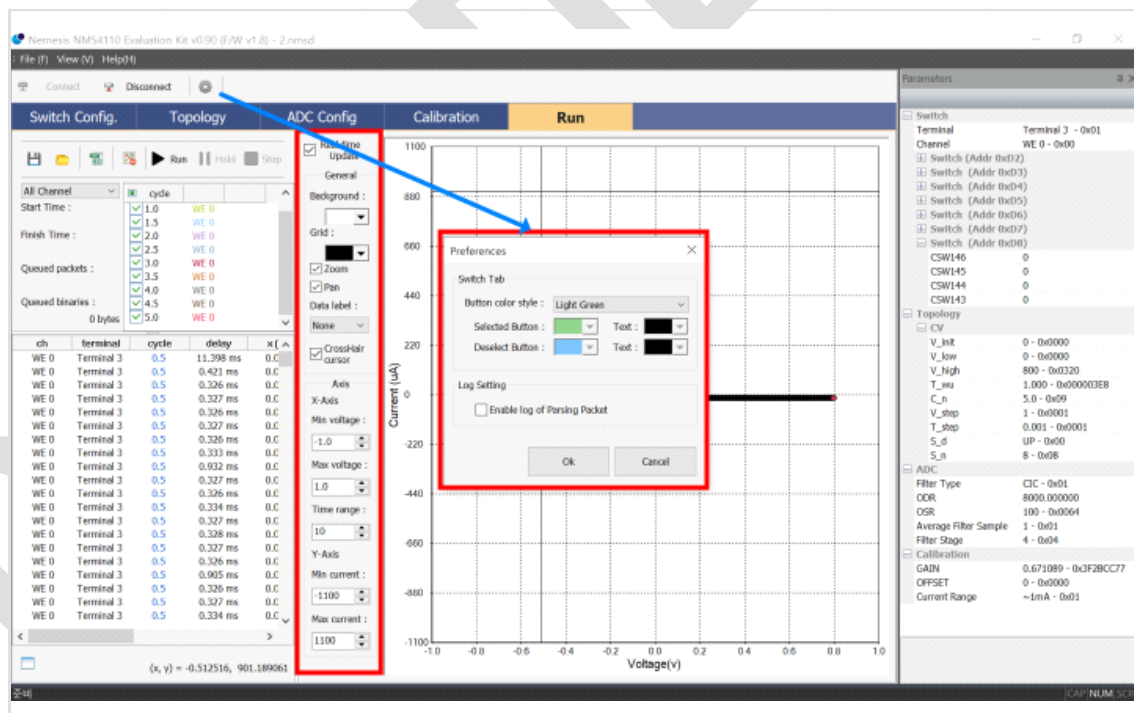

Figure 14 Save/Load Configuration file(nmsc)
- Environment settings(Preferences) and Graph configurations (Color, zoom, pan, X, Y axis Min/Max, etc., red box shown in Figure 14)